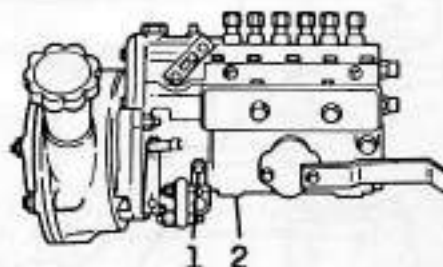

Fig. 87—View showing location of filler plug (1) and drain plug (2).
Drain oil at drain plug (2—Fig. 87), reinstall plug (2) and refill at filler plug (1) with new engine oil until level with lower edge of plug (1).